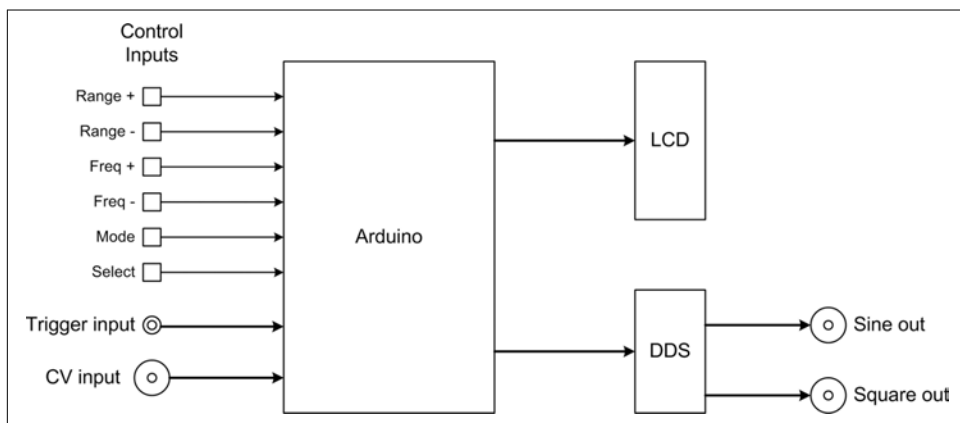
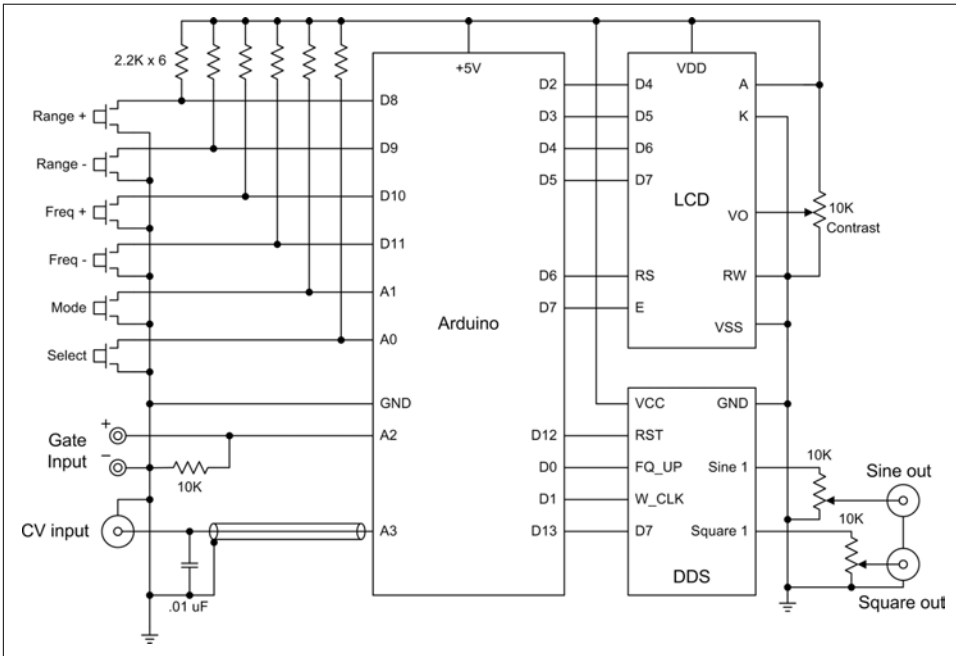
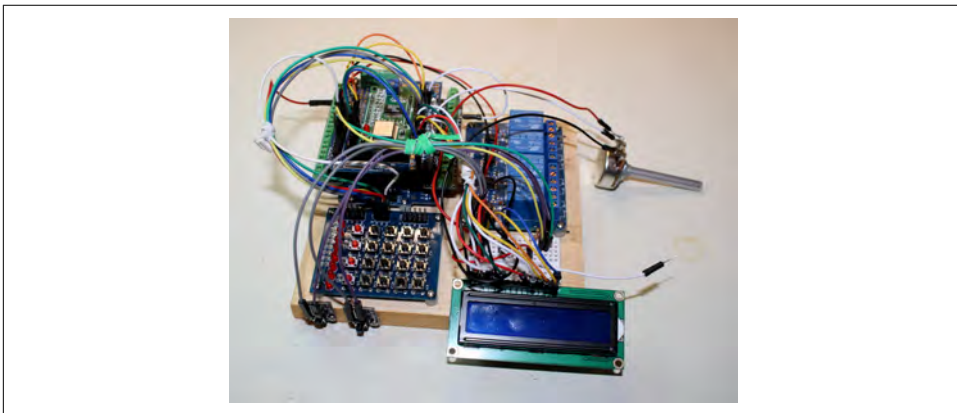

Figure 11-4. Signal generator block diagram
Figure 11-7. Signal generator schematic
Figure 11-10. Arduino prototype fixture
The primary purpose of this instrument is to generate a signal at a specific frequency from 0 to 40 MHz. The AD9850 incorporates a built-in comparator, and this is used to create a simultaneous square wave. The sine wave is a 1V P-P (peak-to-peak) signal, and the square wave is 5V P-P. The output frequency is continuously variable from 0 to 40 MHz under the control of an Arduino Uno. The output frequency may be externally varied by the application of a control voltage (CV), and it may be gated (or triggered) by an external signal (either active high or active low). Figure 11-4 shows a block diagram of the instrument with all the components identified in Table 11-1.
The block diagram in Figure 11-4 shows three major components. The Arduino handles all the control inputs—those from the user as well as the gate and CV inputs. The LCD displays the current state of the instrument, and the DDS module generates the sine and square wave outputs.
I've arranged Figure 11-4 so that the outputs are on the right, and the control inputs are on the left. The large circle symbol is a BNC-type connector for shielded coaxial cables, and the small circle symbol represents a banana-type jack.
Looking at Figure 11-4, we can see that it looks like almost all the available pins on the Arduino are in use. This is indeed the case, as only the A4 and A5 pins are not assigned. With the LCD, DDS, and control switches connected all of the discrete digital I/O pins will be used, and some of the analog inputs will need to be pressed into service for digital I/O as well. This is shown in the schematic in Figure 11-7.
This project uses off-the-shelf components, and a prototype built from the same shields and modules is useful for developing the software. If you are waiting for parts to arrive, a work-alike prototype can help move the software along. For this project I'm using a test setup consisting of an Arduino Uno mounted on a wood base, as shown in Figure 11-10.
In the prototype I'm using an Arduino Uno, a PCB with a 5×4 array of miniature pushbutton switches that also includes 8 LEDs, a pair of screw terminal extenders, a prototype shield with a DDS module mounted on it, and the LCD module that will eventually end up in the final instrument. The pushbuttons will stand in for the control inputs of the signal generator. The four relays shown in Figure 11-10 are not used in this project, so they are not connected. The connections to the Arduino are identical to those shown in Figure 11-7.